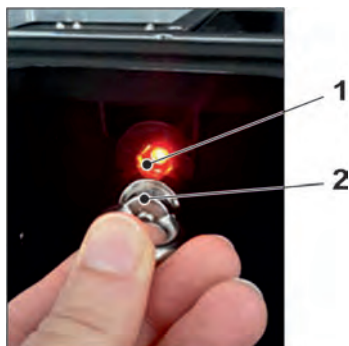

Fig. 31-10 Waking up the NivuFlow Mobile
2. "Wake up" NivuFlow Mobile: to do this, hold the supplied magnet (Fig. 31-10 Pos. 2) in front of the Reed contact (Fig. 31-10 Pos. 1; at the front of the NFM) until the LED lights up.